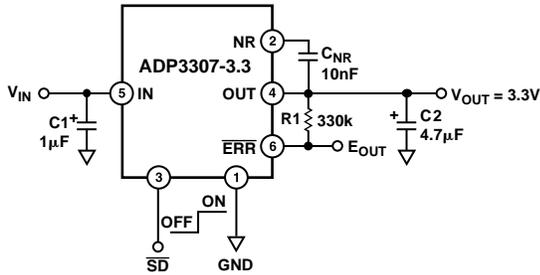

Figure 21. Noise Reduction Circuit
A noise reduction capacitor (C_{NR}) can be used to further reduce the noise by 6 dB–10 dB (Figure 21). Low leakage capacitors in 10 nF–100 nF range provide the best performance. As the noise reduction capacitor increases the high frequency loop-gain of the regulator, the circuit requires a larger output capacitor if it is used. The recommended value is 4.7 μF , as shown in Figure 21. Since the noise reduction pin (NR) is internally connected to a high impedance node, any connection to this node should be carefully done to avoid noise pick up from external sources. The pad connected to this pin should be as small as possible. Long PC board traces are not recommended.